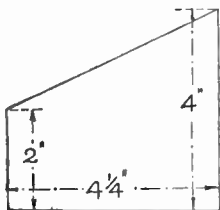

Fig. 6—Dimensions for design 2
Ideally, the method shown in Fig. 6 is best for making the basket and is quite easy to do, the only snag being to get the basket-making material. Only a small quantity is required although some handicraft suppliers put up $\frac{1}{4}$ lb. lots. However, if one can get some No. 6 cream cane for the upright stakes and some No. 3 for the weaving, one is equipped for a fine job. It is possible to
Although looking quite solidly constructed, the box is in two parts. There is the upper box to which is attached a rim of moulding (the upper stage of the two-stepped base), and which is shown in Fig. 6, and the main base, the lower of the two steps, shown in Fig. 2. The top part sits in the opening of the lower part (Fig. 5 gives some idea of this). But whilst the fit is good the long way, there is $\frac{1}{4}$ in. extra the short way in the lower framed part, so that the upper
given in Fig. 5. Note that a notch is cut at the bottom of one side (the narrow partition side) only. Make the plain box first without the surround (E), testing it by 'offering' it to the lower frame. There should be a $\frac{1}{4}$ in. movement from back to front but no more, from side to side, than to ensure easy working. This ascertained, apply the surround (E) which is of $\frac{3}{8}$ in. by $\frac{1}{2}$ in. stuff. Note that this surround is NOT flush with the bottom of the box but $\frac{1}{4}$ in. up. This can clearly be seen in Fig. 6.